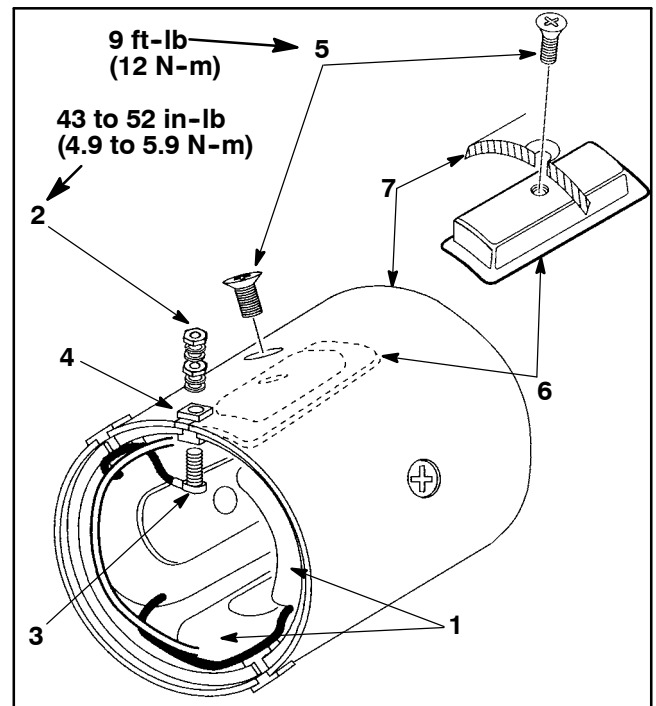

Figure 29
9. Inspect field coils (Fig. 29).
10. To remove field coils (Fig. 29):
- B. Remove four (4) pole piece screws and pole sets from the yoke. Remove field coils from the yoke.
- A. Position field coil into yoke. Make sure both insulators that look similar go into the slots marked F1 and F2. The different looking insulator goes into the slot marked DF. Seat insulators into slots (Fig. 29).
- B. Install terminals through wire connectors and insulators. Secure flat washer, lock washer and nut onto each terminal. Torque nuts from **43 to 52 in-lb (4.9 to 5.9 N-m)** (Fig. 29).
- C. Position all four (4) pole pieces into the yoke. Secure pole pieces with set screws. Torque screws to **9 ft-lb (12 N-m)** (Fig. 29).